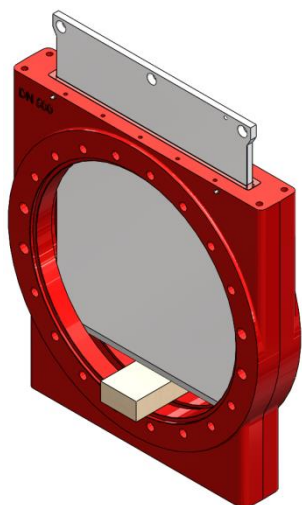

Figure 15. Detail of timber insert.
3. Insert a piece of timber in the bore as shown in Figure 15. It is to prevent excessive gate drop before clevis pin is installed.
4. Apply recommended silicon lubricant on the chamfered edge and sides of the gate (2) and slide it through the opening at the top of the valve body until it stands safely on the piece of timber.